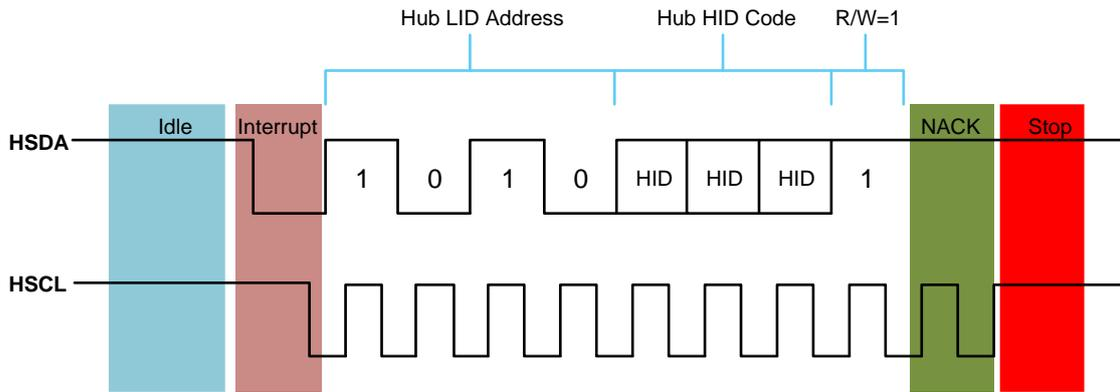

Figure 14. SPD5 Hub Interrupt; Host NACK followed by STOP
- The Host sends NACK on the 9th bit as shown in Figure 14 followed by a STOP command. In this case, the SPD5 Hub device does not transmit the IBI payload and waits for the next opportunity to request an interrupt. At this point, though Host sent a NACK, it does have a knowledge of which SPD5 Hub device sent the IBI request. The SPD5 Hub retains the IBI status flag *MR48*[7] = '1' and Pending Interrupt Bits [3:0] = '0001'.